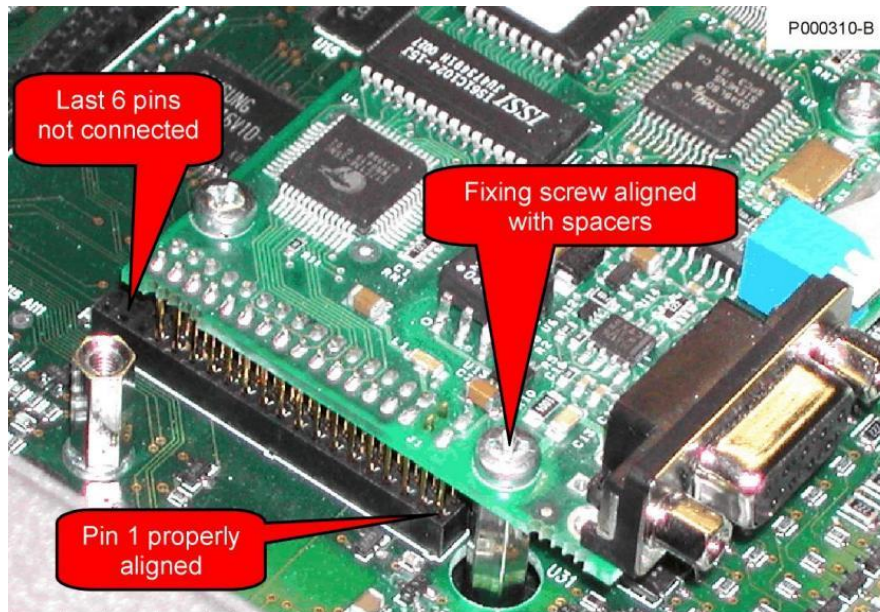
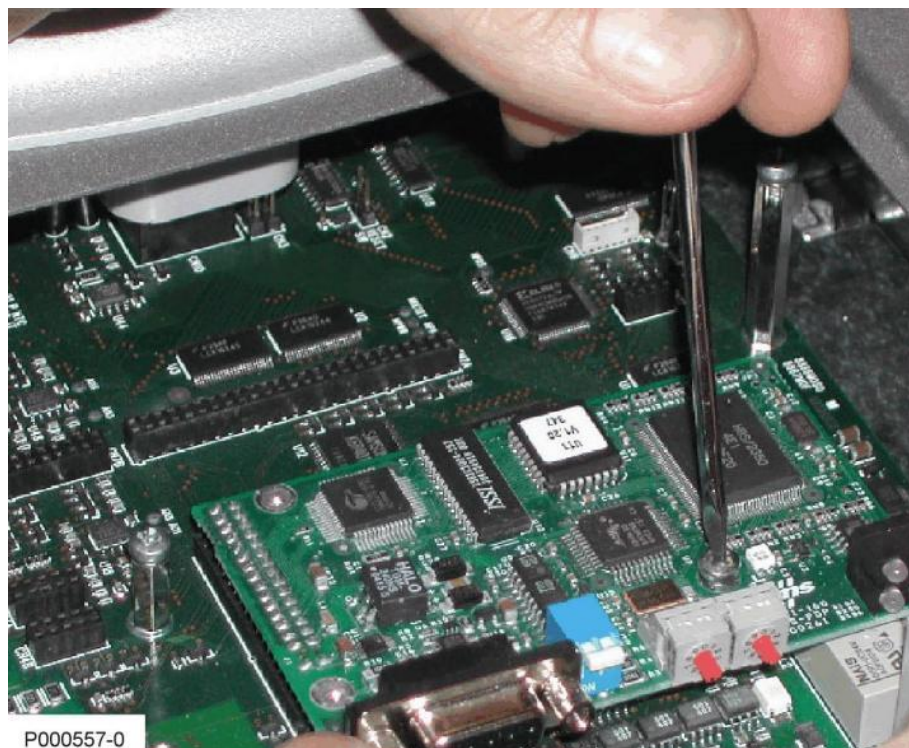

Figure 87: Checking contacts in the slot B
Figure 88: Fastening the communications board to slot B
- 4) Insert the communications board in the slot B; make sure that the connector bar in the board is inserted in the front part of the slot only, and that the last 6 pins are not connected. If installation is correct, the three fastening holes will match with the housings of the fastening screws for the fixing spacers. Tighten the board fixing screws as shown in Figure 87 and Figure 88.